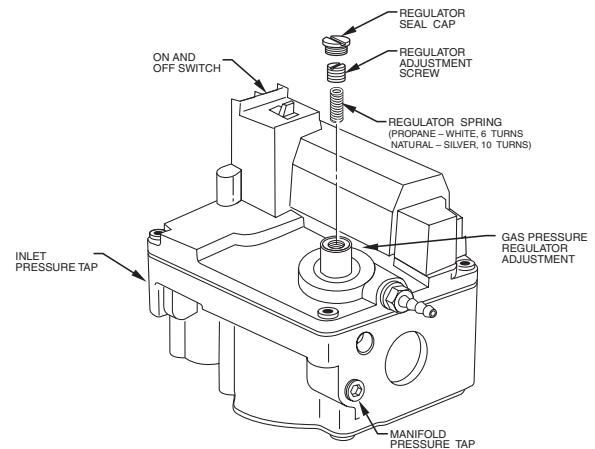
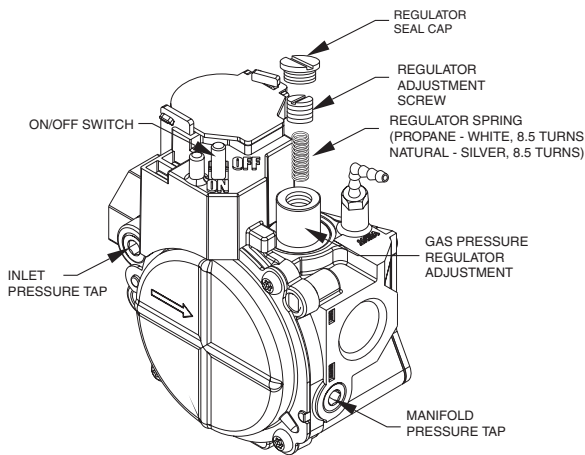

Fig. 38 - Single Stage Gas Valve, Series F
**Fig. 40 - Single Stage Gas Valve, Series G / J**
**NOTE:** There are three variations of single stage gas valves used on these furnaces. The propane regulator springs are the same for all three valves and are identical to the springs used in the 2-stage valves. Refer to Fig. 38, 39, and 40 for reference for the valve installed on your furnace.
5. Turn regulator adjustment screw clockwise (in) six turns for Fig. 38 and 39 or 8.5 turns for Fig. 40.
2. Remove 1/8-in. (3 mm) pipe plug from inlet pressure tap on gas valve. (see Fig. 38, 39, and 40). DO NOT DISCARD PLUG!